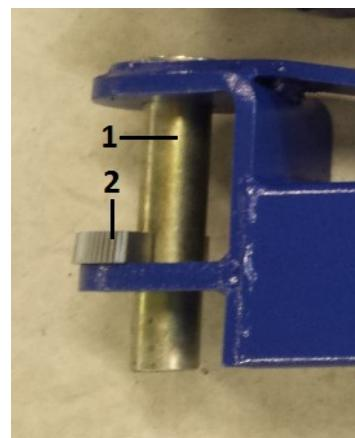

Fig.18
1. Remove the pin (1, fig.18) out of the arm.
2. Grease the pin and tooth of the arm (2, fig.18) with EP40 multigrease, also grease the tooth of the lifting body (44, partslist) its locking system.